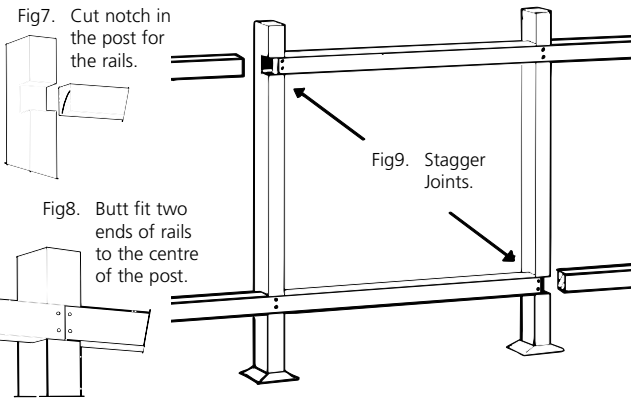
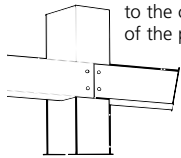

Fig8. Butt fit two ends of rails to the centre of the post.
Fig9. Stagger Joints.
- Fix the rails into position and nail to the posts using 75mm x 3.75mm galvanised bullet head nails, ensure that joints are butted together in the centre of a post (see Fig 8). Stagger joints in the rails as shown in Fig 9.